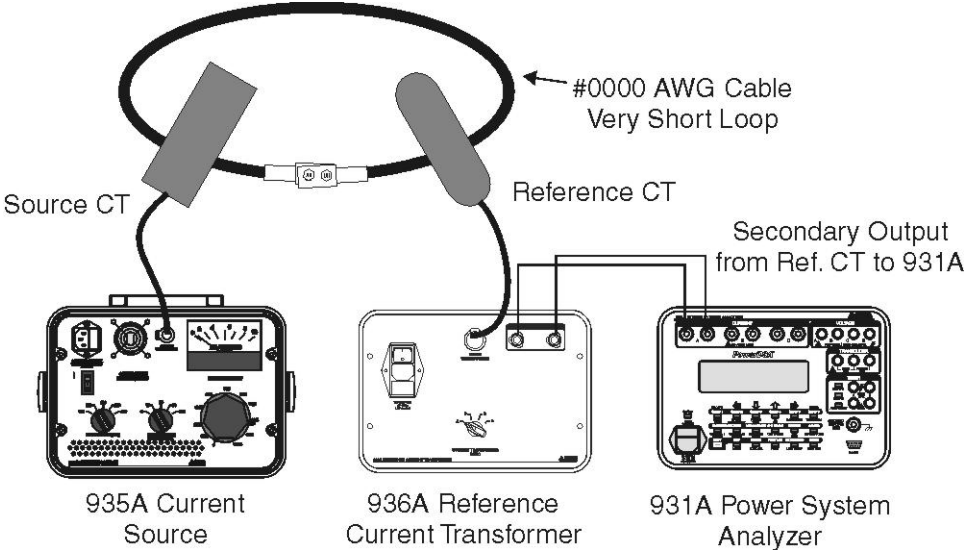

Figure 3.1: Model 935A Test Setup
Figure 3.1 illustrates a simple method to accurately verify currents through a common electrical loop. The loop is energized by the Source CT and detected by the Reference CT. The loop itself is made up of 3.04 meters (10 feet) of # 0000 welding cable and connected by large ring terminals with two bolts.
1. Connect the overall test system as in Figure 3.1, or similar. Note: It is essential to have a complete loop as illustrated. If you want to test the Model 935A by itself, you must have a connected loop.
The photo in Figure 3.3 shows how the three instruments were set up as in Figure 3.1 to obtain about 300 amperes of secondary current through the large loop of cable. Note that three turns of this cable pass through the two CT's. To increase the current would require shorter cables, better connectors and larger cables.